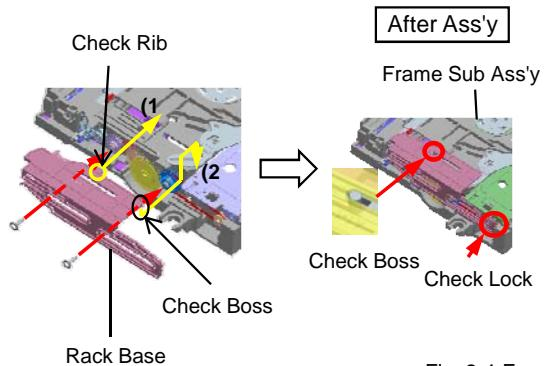

Fig. 2-4-F
### 2.4: RACK BASE/GEAR MIDDLE4/BELT LOADING/GEAR PULLEY/ GEAR MIDDLE3/GEAR MAIN/GEAR MIDDLE1/GEAR MIDDLE2/ LOADING MOTOR/PULLEY MOTOR/CLAMPER/MAGNET/ PLATE CLAMPER/SPRING LIFTER/PLATE LIFTER/LEVER GUIDE/ LOADING MOTOR PCB/RACK DISC SENSOR R/RACK DISC SENSOR L/SPRING RACK D SENSOR/GEAR RACK DISC (Refer to Fig. 2-4-A)
1. In case of the Gear Pulley installation, check if the value of the Fig. 2-4-B is correct.
2. In case of the Clamper Ass'y installation, check if the value of the Fig. 2-4-C is correct.
3. When installing the wire of the Loading Motor PCB Ass'y, install it correctly as Fig. 2-4-D.
4. In case of the Plate Lifter Ass'y installation, install correctly as Fig. 2-4-E.
5. In case of the Rack Base installation, install correctly as Fig. 2-4-F.